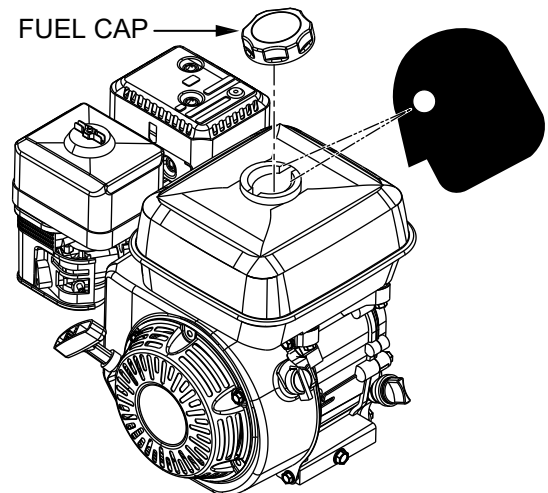

Figure 6. Fuel Level Inspection
1. Remove the **fuel cap** (Figure 6) located on top of the fuel tank.